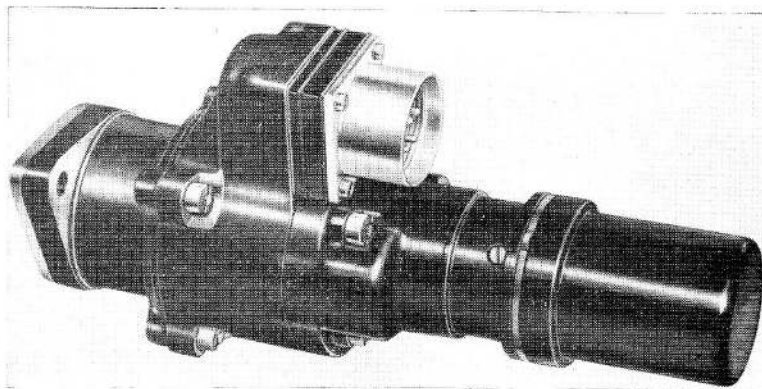

Fig. 1. Type C5530/1 actuator
1. This actuator (*fig. 1*) is generally similar to that described in the main chapter. The rotary movement of the output shaft is limited to 90 deg. by the two internal limit switches.